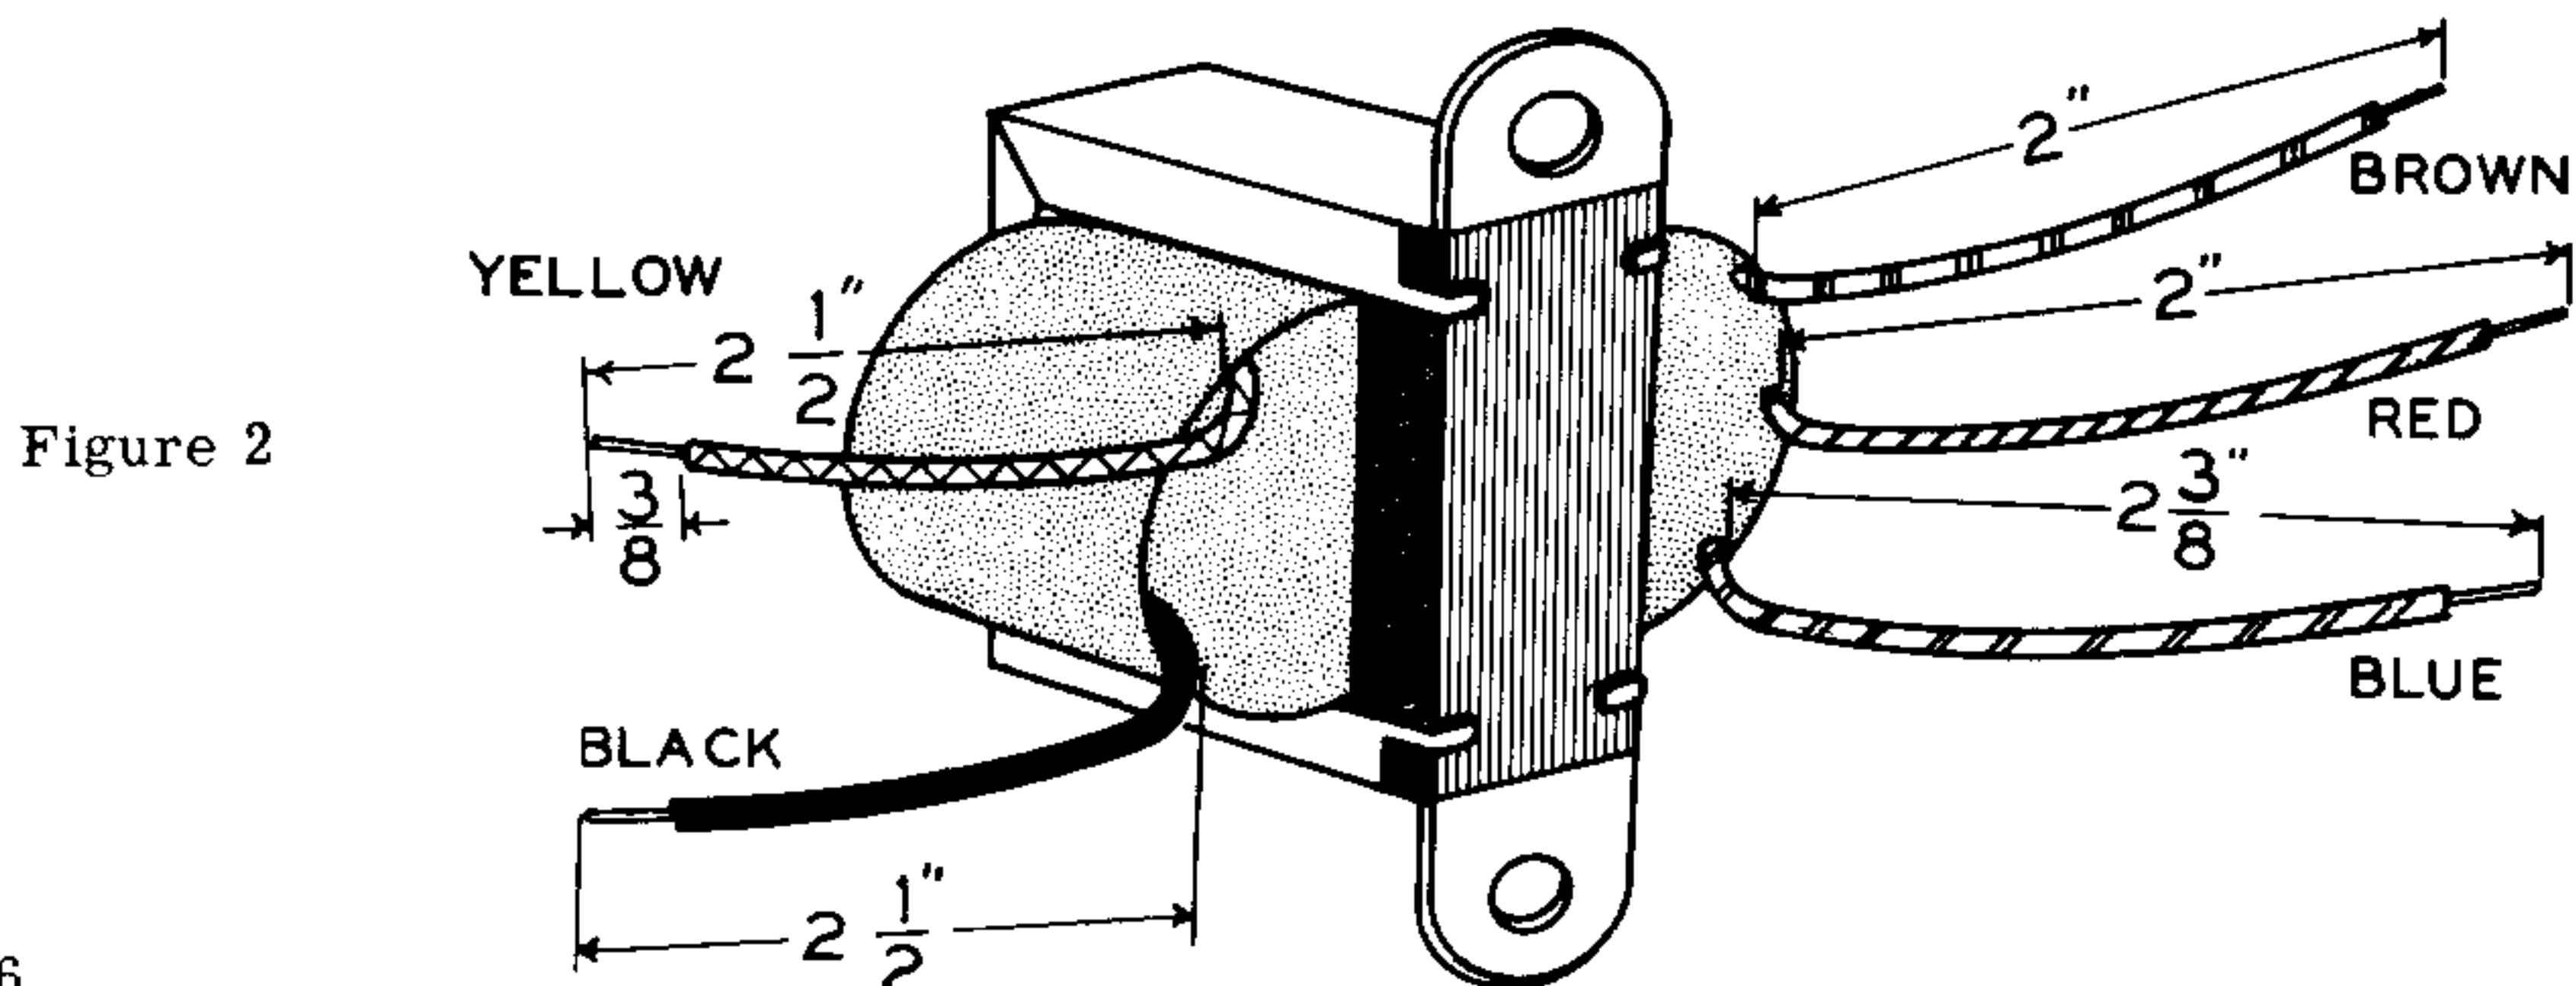

Figure 2
- () Refer to Figure 2 and trim the black and yellow leads of the output transformer (#51-46) to 2 1/2" long. Trim the red and brown leads to 2" long and the blue to 2 3/8" long. Now trim the insulation 3/8" off the end of each lead. Twist the strands tightly together and tin lightly (apply a small amount of solder using a hot iron). Set the transformer aside for now.